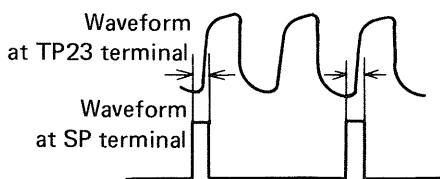

Fig. 8
1. Observe the output waveforms from SP and TP23 (Fig. 8). (Two output pulses from terminal TP23 will correspond with one pulse from terminal SP.)